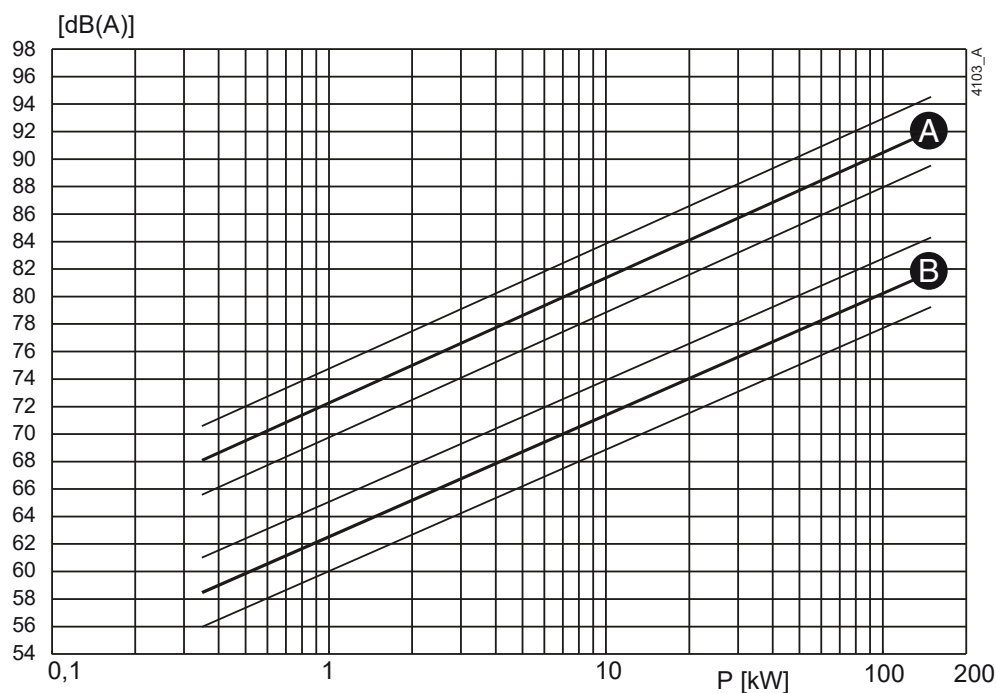
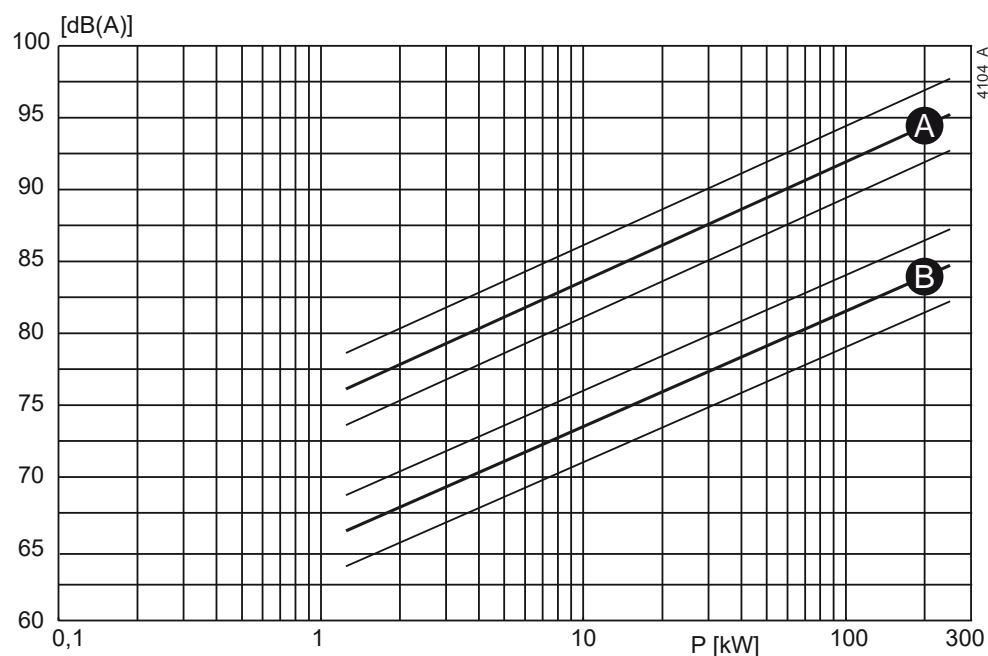

Figure 27: Noise level as function of pump power [kW] at 1450 min⁻¹
Figure 28: Noise level as function of pump power [kW] at 2900 min⁻¹
- 1 Determine the noise level (L_1) of the pump, see figure 27 or figure 28.